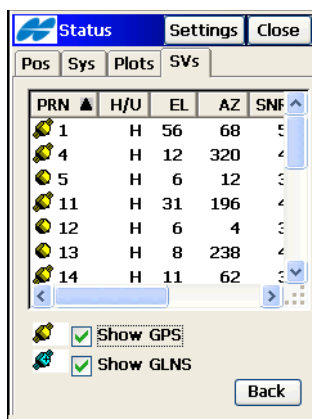

Figure 8-21. Status – SVs List
- **List** – toggles to the table (Figure 8-21) that displays the satellite parameters.